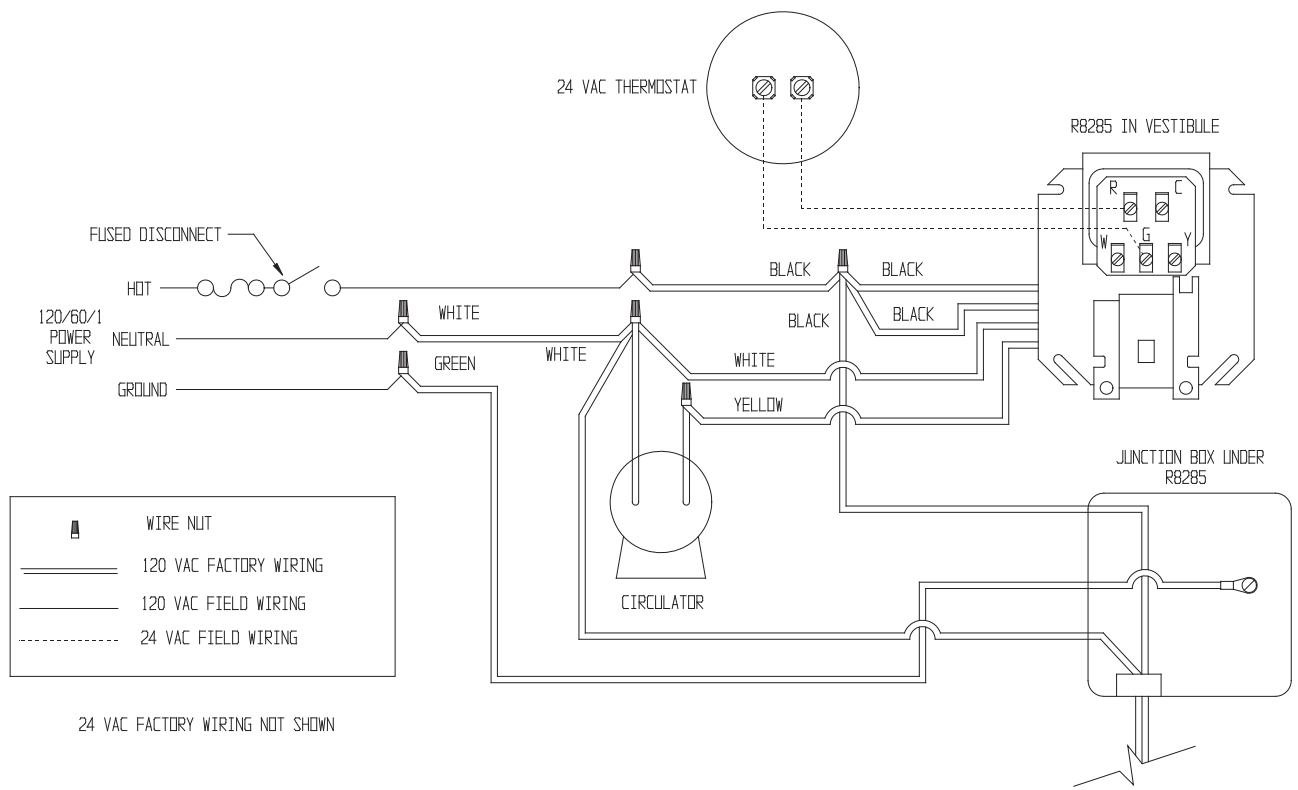

FIGURE 37: R8285 CONTROL SYSTEM - SINGLE ZONE FIELD WIRING
- 1) Line Voltage (120 VAC) Connections (Fig 37) – The line voltage connections are located in the junction box under the R8285 fan center on the right side of the boiler.